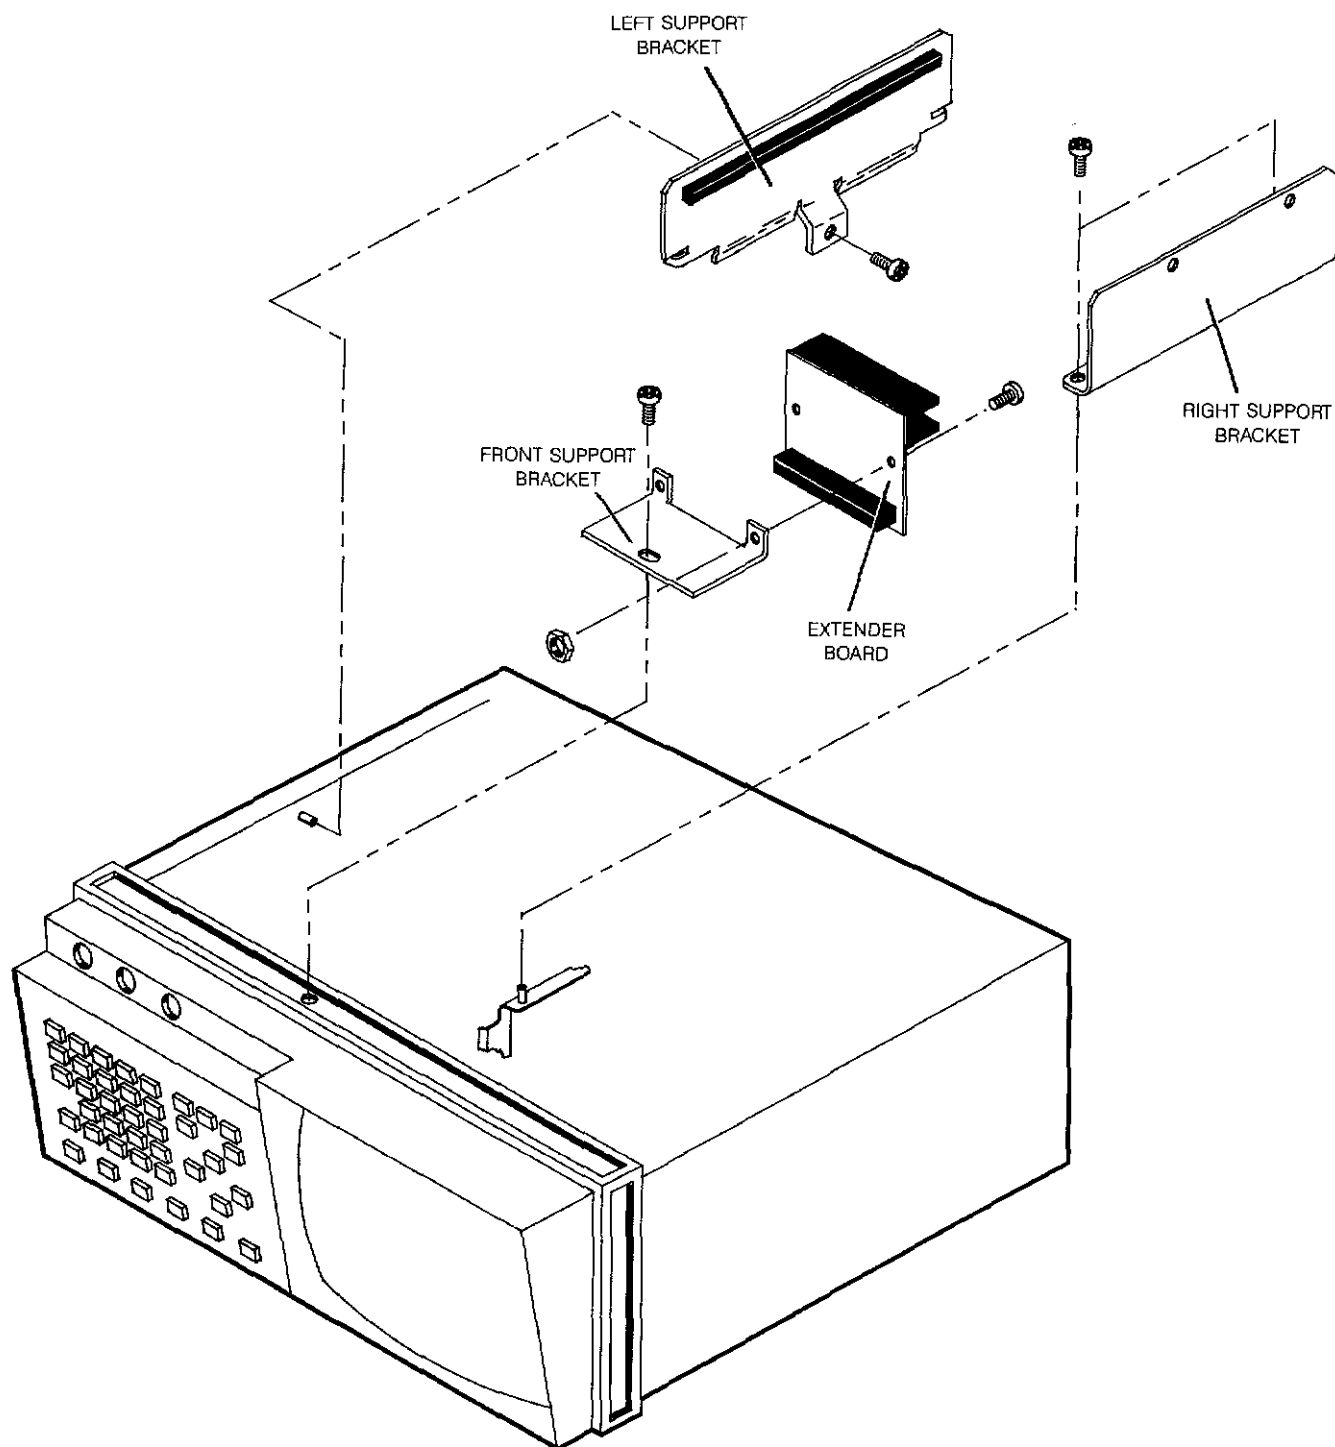

Figure 4-11. HP 54201A/D Product Support Kit Analog Extender Assembly
2. Install Analog Extender Board and Analog Board Support Brackets from Product Support Kit into HP 54201A/D as shown in figure 4-11; then install Analog Board assembly into Extender Board.